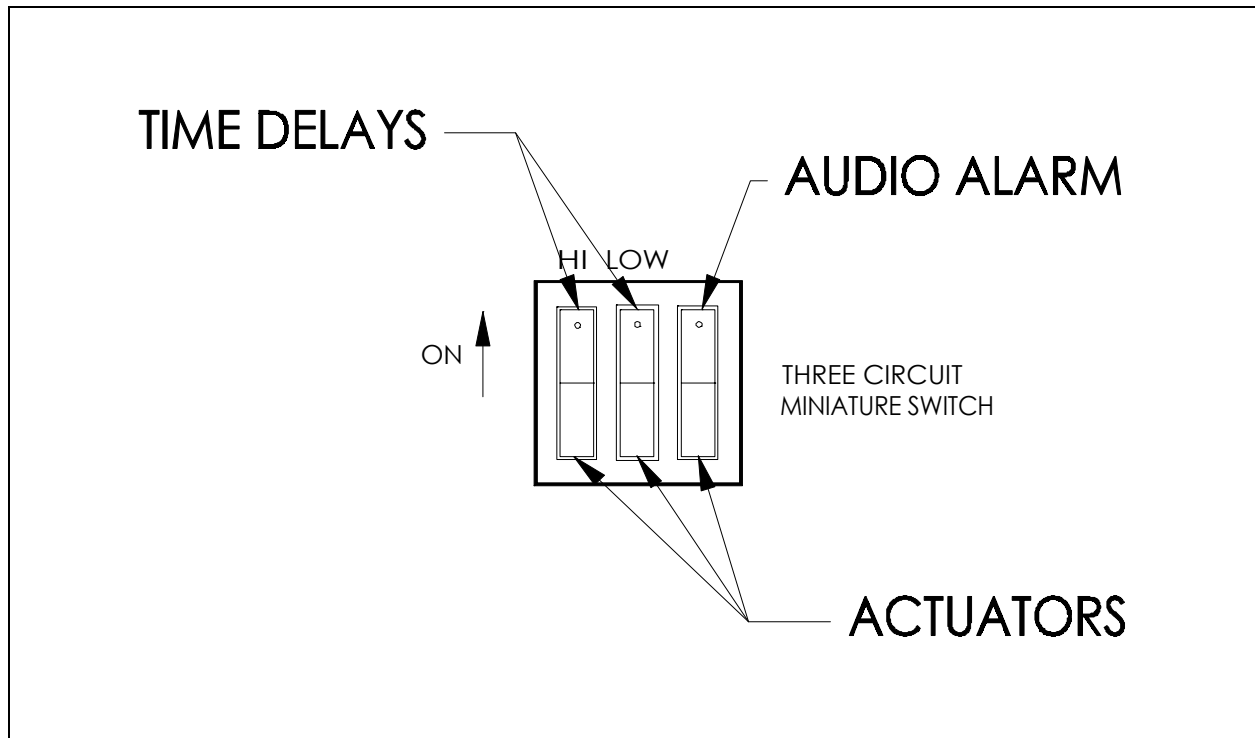

Figure 1: Three circuit miniature switch.
13. THREE CIRCUIT MINIATURE SWITCH: Each actuator on the miniature switch controls a different circuit as shown in Figure 1. If the actuator is set in the UP position, its corresponding circuit is ON. If the actuator is set in the DOWN position, the circuit is OFF.
When power is applied, the GREEN power LED will light. A one minute time delay eliminates false alarms from occurring during the sensor's warm up period. After this time delay, the unit becomes fully operational. If time delays are required or the audio alarm indicator is not needed, the three circuit miniature switch can be set accordingly. Refer to Section 3, Item 14 and Figure 1.